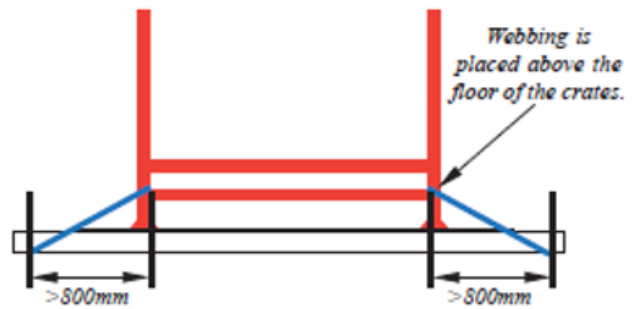

Figure 3: Side View: Direct restraints angles forward and back at least 800mm
- ✓ Olex coil crates must have one direct webbing restraint angled back at least 800mm as shown in Figure 3.
- ✓ Olex coil crates must have one direct webbing restraint angled forward at least 800mm as shown in Figure 3.
- ✓ Direct Restraints must be placed above the floor of the crates as shown in Figure 3.